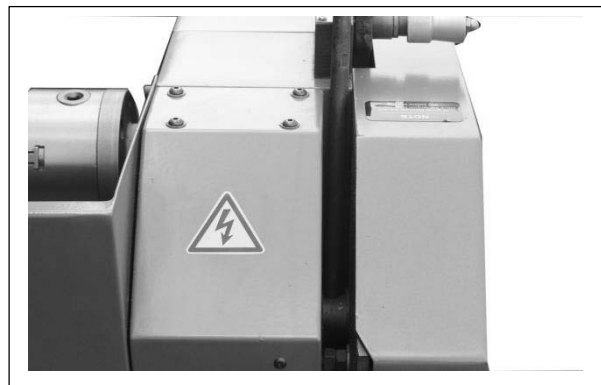

Figure 38
**Caution:** To avoid breaking the belt, move the tension lever towards the front of the machine before starting (Figure 38).